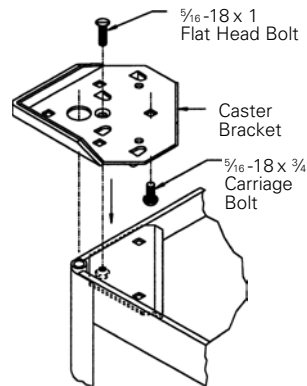

Figure 3
3. Insert one ⅝ -18 x ¾ carriage bolt through the square hole in the caster bracket. Place the caster bracket over the bolt plate and table corner, making sure the four tabs are to the outside of the table. Insert the ⅝ -18 x 1 flat head screw through the caster bracket and bolt plate and tighten just enough to hold the entire assembly in position. (Figure 3)